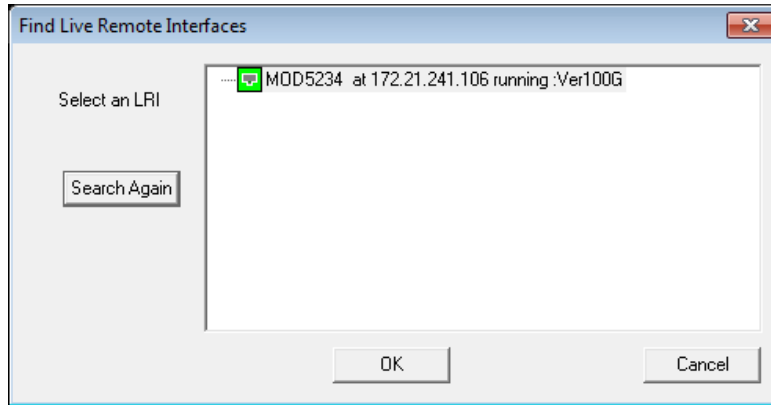

Figure 7. Find LRI Window
11. An TracLRI with its machine number and IP address should appear in the "FIND" window after a short search. **Fig. 7**